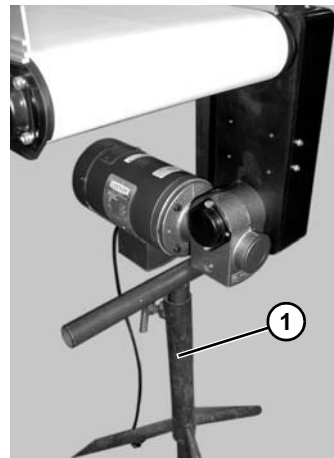

Figure 78
- a. Use a temporary support (Figure 78, item 1) to support Gearmotor.